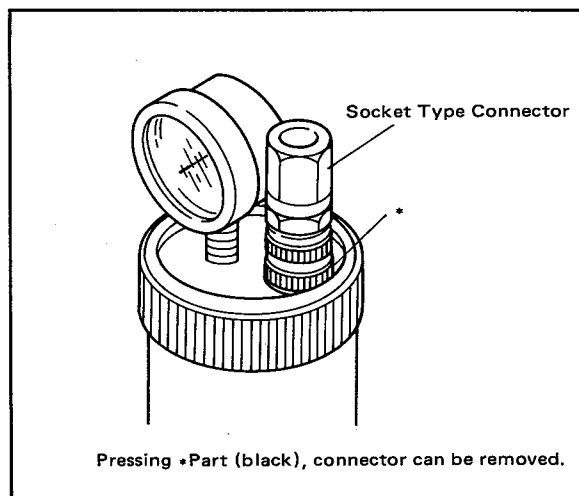

Figure 3-2. Socket Type Connector.
- (2) Remove the socket connector on the reserve tank and stop the air pressurizing the tank (see Figure 3-2).